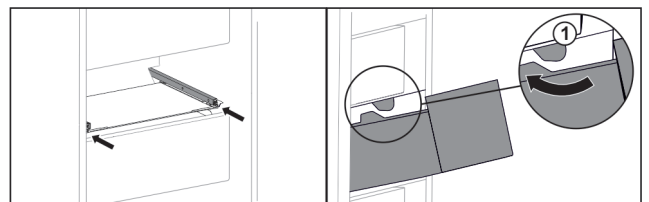

Fig. 31
- ▶ Guide the drawer around the stoppers Fig. 31 (1).\*